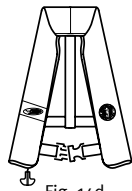

Fig. 14d
4. Make sure the yellow pull knob is on the outside of the folded PFD. Fig. 14d depicts a correctly folded PFD.